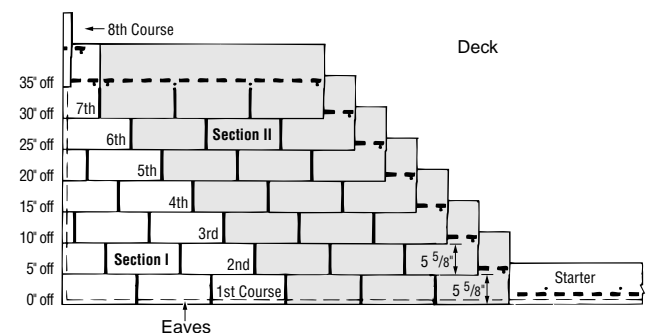

Figure 12-15: Eight-Course, Five-Inch, Stepped-Off Diagonal Method.
3. Continue with full-length starter-course shingles along the eaves. (Figure 12-15).
1. Begin the second course by cutting 5" off the left end of a shingle and applying the  $34\frac{3}{8}$ " piece over the first-course shingle, flush with the left edge of the first-course shingle, and exposing the first course  $5\frac{5}{8}$ " (Figure 12-15).
3. Install “Section II” as shown in Figure 12-15 using full shingles against the eighth courses in “Section I.” This must be done before continuing with course nine. These “Section II” shingles are to be butted-up against the “Section I” shingles.